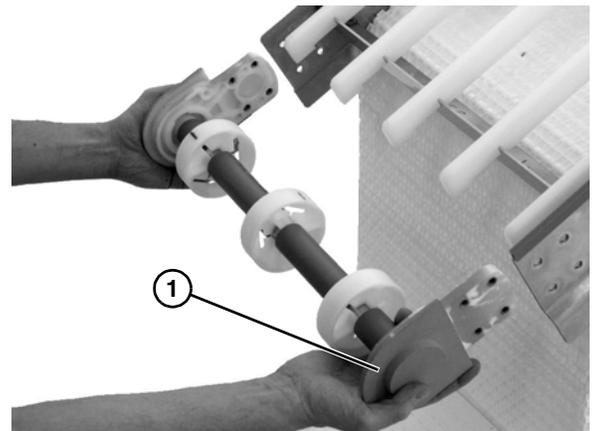

Figure 35
- Remove idler tail assembly (**Figure 35, item 1**).